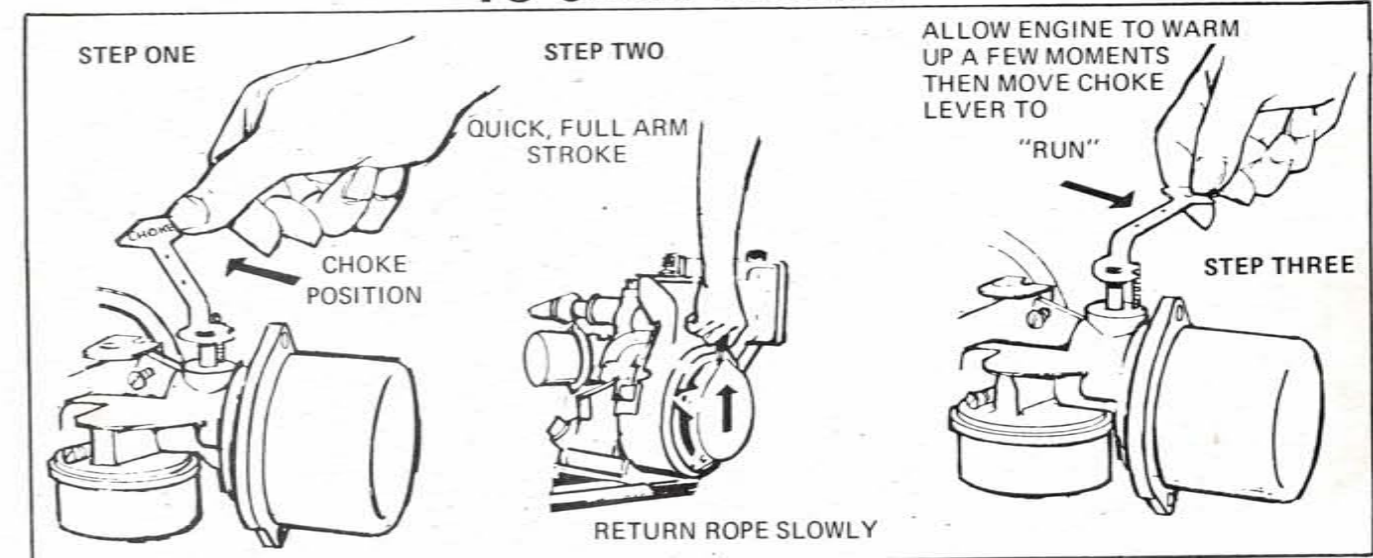

Figure 14
2. Move choke arm to choke position (see Figure 14).
Before starting BE SURE spark plug wire is attached to spark plug and disengage any clutches or belts. Start the engine according to steps one, two and three (see Figure 14).